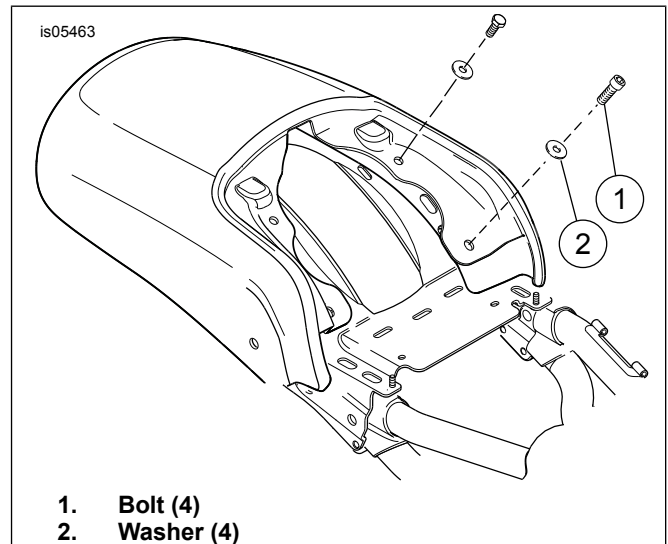

Figure 1. Fender Mounting Bolts
1. See Figure 1. Remove four rear fender mounting bolts (1) and washers (2). If necessary, move the ECM to access the four fender mounting bolts.
16. See Figure 1. Install four fender mounting bolts (1) and washers. Tighten to 20–26 N·m (15–19 ft-lbs).